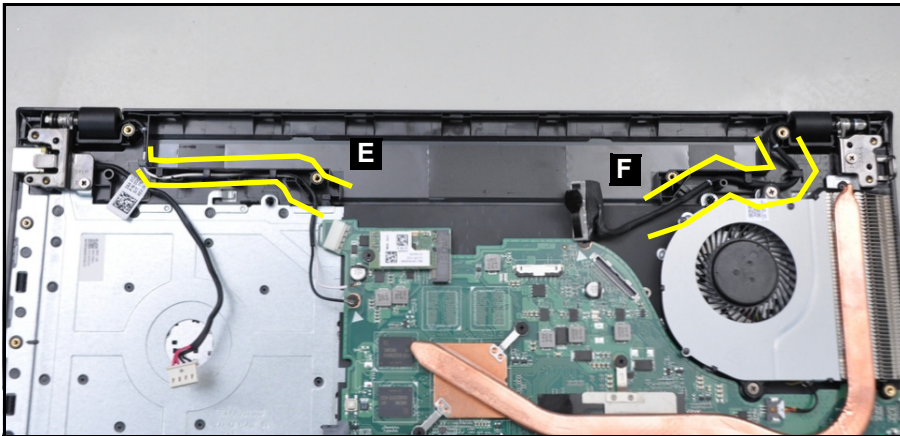

Figure 3-49. LCD Module Removal
5. Remove the WLAN antennas (E) from the cable guides as shown in Figure 3-49.
6. Remove the eDP cable (F) from the cable guides as shown in Figure 3-49.